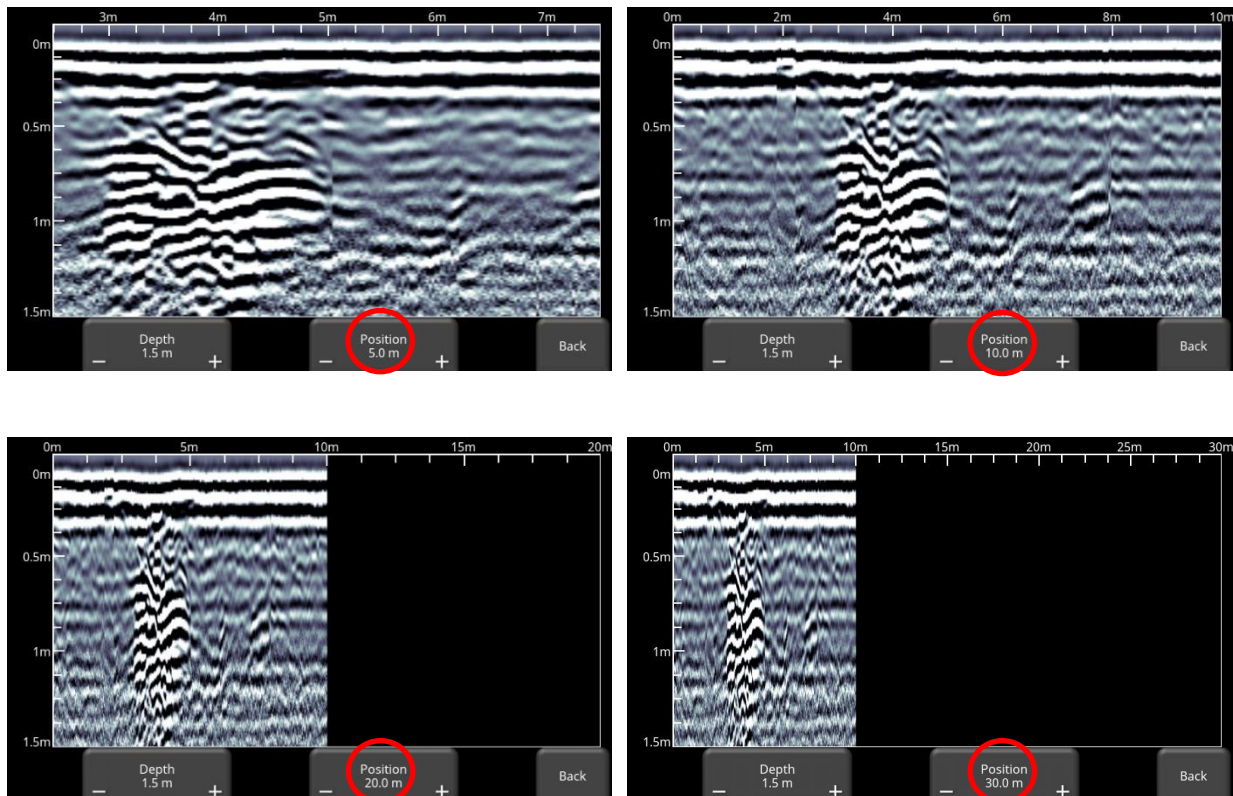

Figure 6-9: Varying position, or horizontal scaling
- **Position** – Pressing **+** and **-** under the **Position** button allows you to change the length of data display on a single screen. This is also known as horizontal scaling. The pre-set values range from 5m to 30m (10' to 75'), see Figure 6-9.